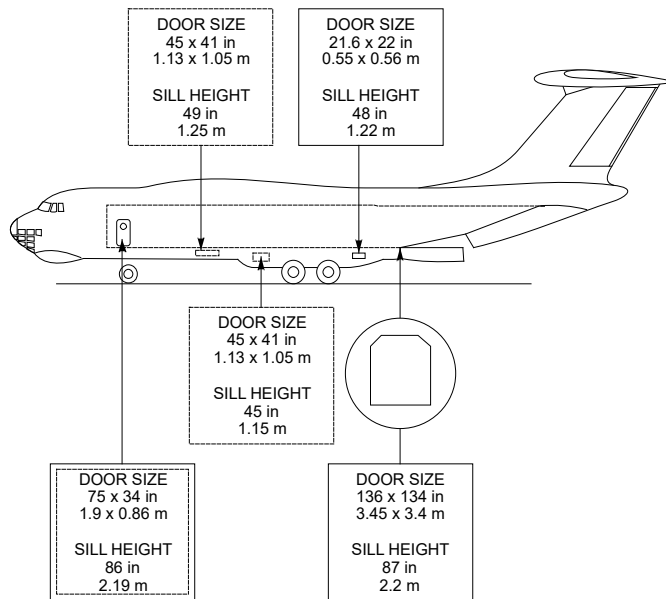

Figure 13. Doors, sills height and dimensions for IL-76TD-90VD aircraft
- Figure 13. Doors, sills height and dimensions for IL-76TD-90VD aircraft.